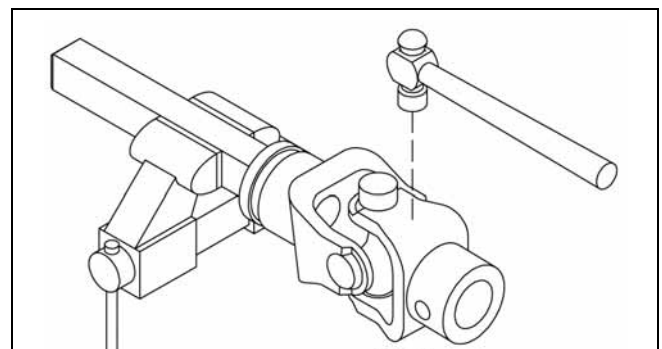

Figure 25. Remove Cups
- With snap rings removed, support drive in vise, hold yoke in hand and tap on yoke to drive cup out of yoke. See Figure 25.